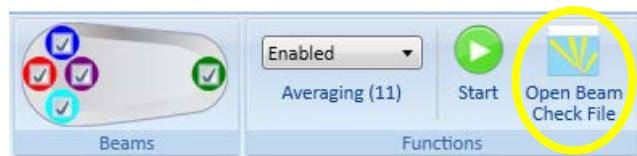

Figure 65. Opening a Beam Check File
- To view a previously recorded Beam Check file, select stop to end sampling and then select **Open Beam Check File** to view data (Figure 65).